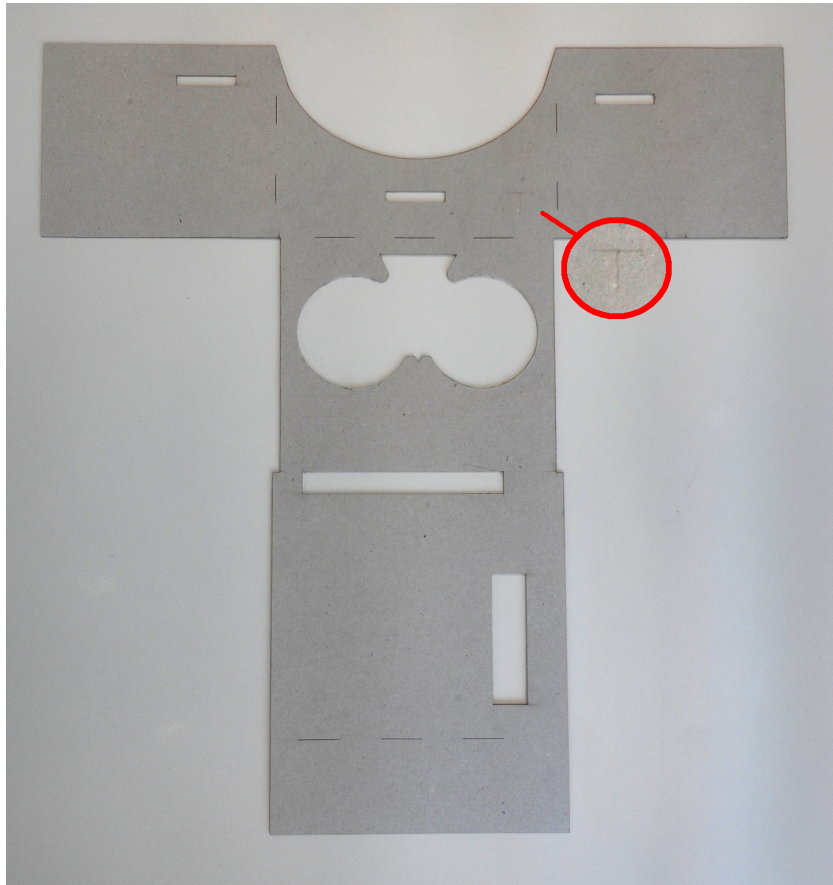
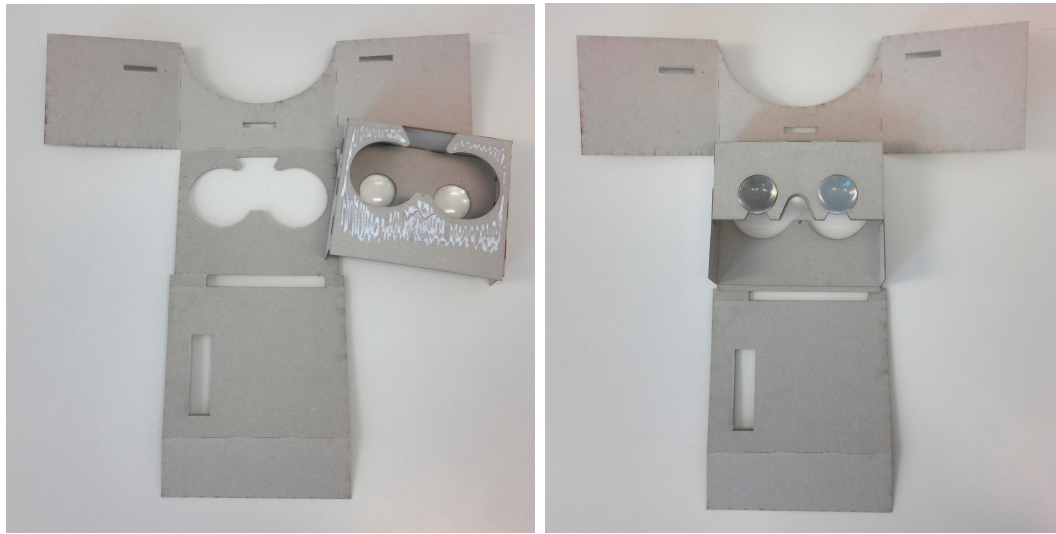

Figure 1.0.15: Part E
Figure 1.0.16: Combination of both parts
6. Fold the edges of part E (see figure 1.0.15). Make sure to fold the edges to the bottom-side of part E, a “T” marks the top-side of part E. This is important because the hole for the smartphone camera must be on the correct side. Place the part created in the previous step on part E (bottom-side) and glue it (figure 1.0.16). Then glue the sides as well as the lid (Figures 1.0.16, 1.0.17 and 1.0.18).